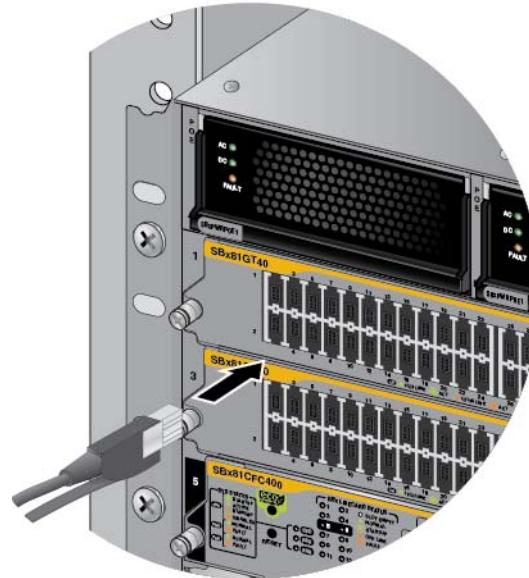

Figure 79. Connecting Cables to Ports on the AT-SBx81GT40 Line Card
- To connect a cable to a port in the top role on the line card, orient the connector with the release tab on top. To connect a cable to a port in the bottom role, orient the connector with the release tab on the bottom. Refer to Figure 79 on page 126.